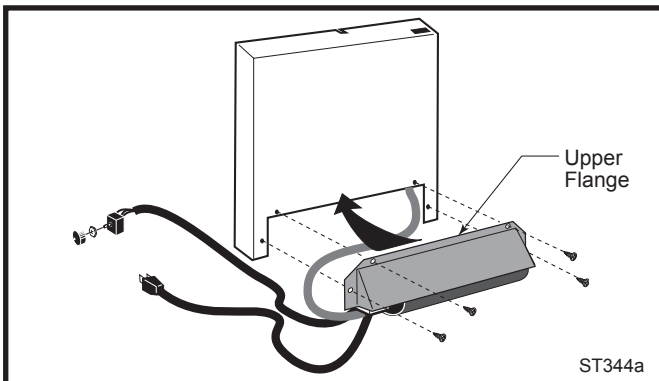

Fig. 2 Place upper flange behind lower edge of shroud.
1. Remove shroud assembly by loosening two (2) hex head bolts on lower inside of shroud. Lift shroud assembly up and away from stove.
2. Attach the fan to the rear shroud by engaging the upper flange of the fan skirt under the lower edge of the shroud and secure the skirt with the four screws and one star washer provided. (Figs. 2 & 3)